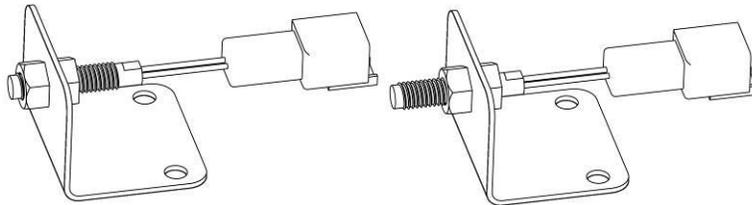

Figure 14: Adjusting the work switch length
7. Adjust the locknuts on the work switch assembly so that the work switch is within a few inches of the work switch magnet when the work switch is engaged. Figure 14 illustrates this step. Refer to "Adjusting the length of the work switch bracket" for specific detail on this step.
To achieve the correct distance between the work switch and the magnet, you must adjust the length that the work switch protrudes from the work switch bracket. The left image in Figure 14 shows the work switch with a short length extending from the work switch bracket. The right image in Figure 14 shows a longer length extending from the work switch bracket.